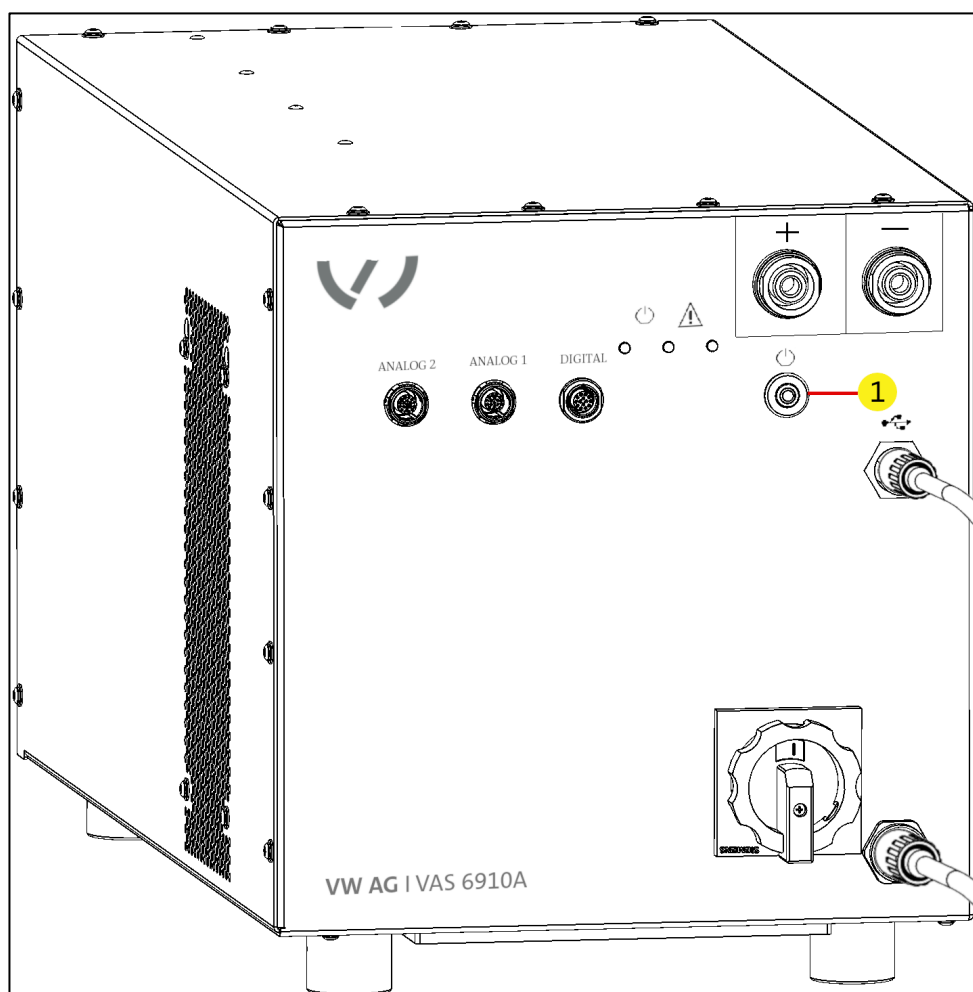

Figure 5: Press the On/Off button
7. Press the On/Off button (Figure 5/position 1) to deactivate stand-by mode.